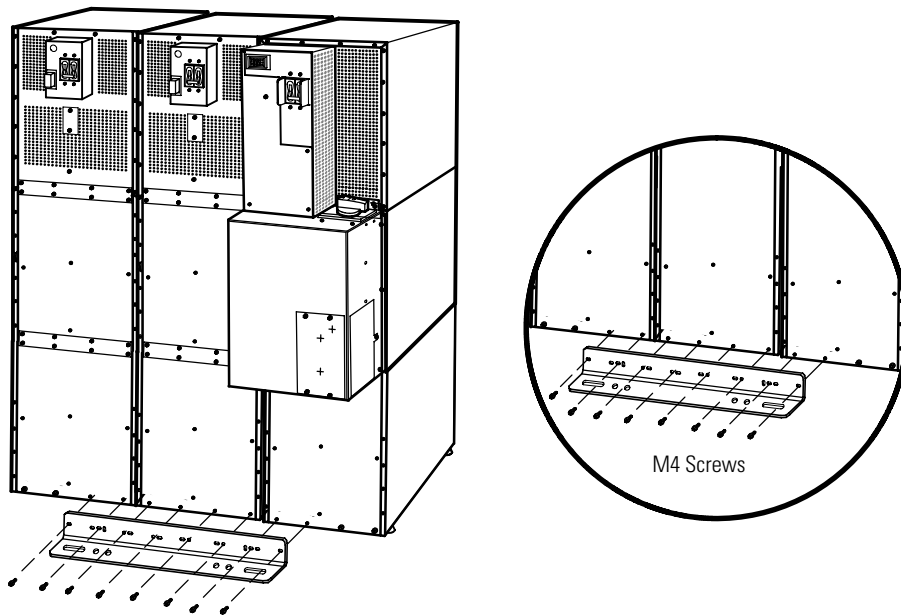

Figure 30. Stabilizing Bracket with Three Cabinets
- For three cabinets, see Figure 30.